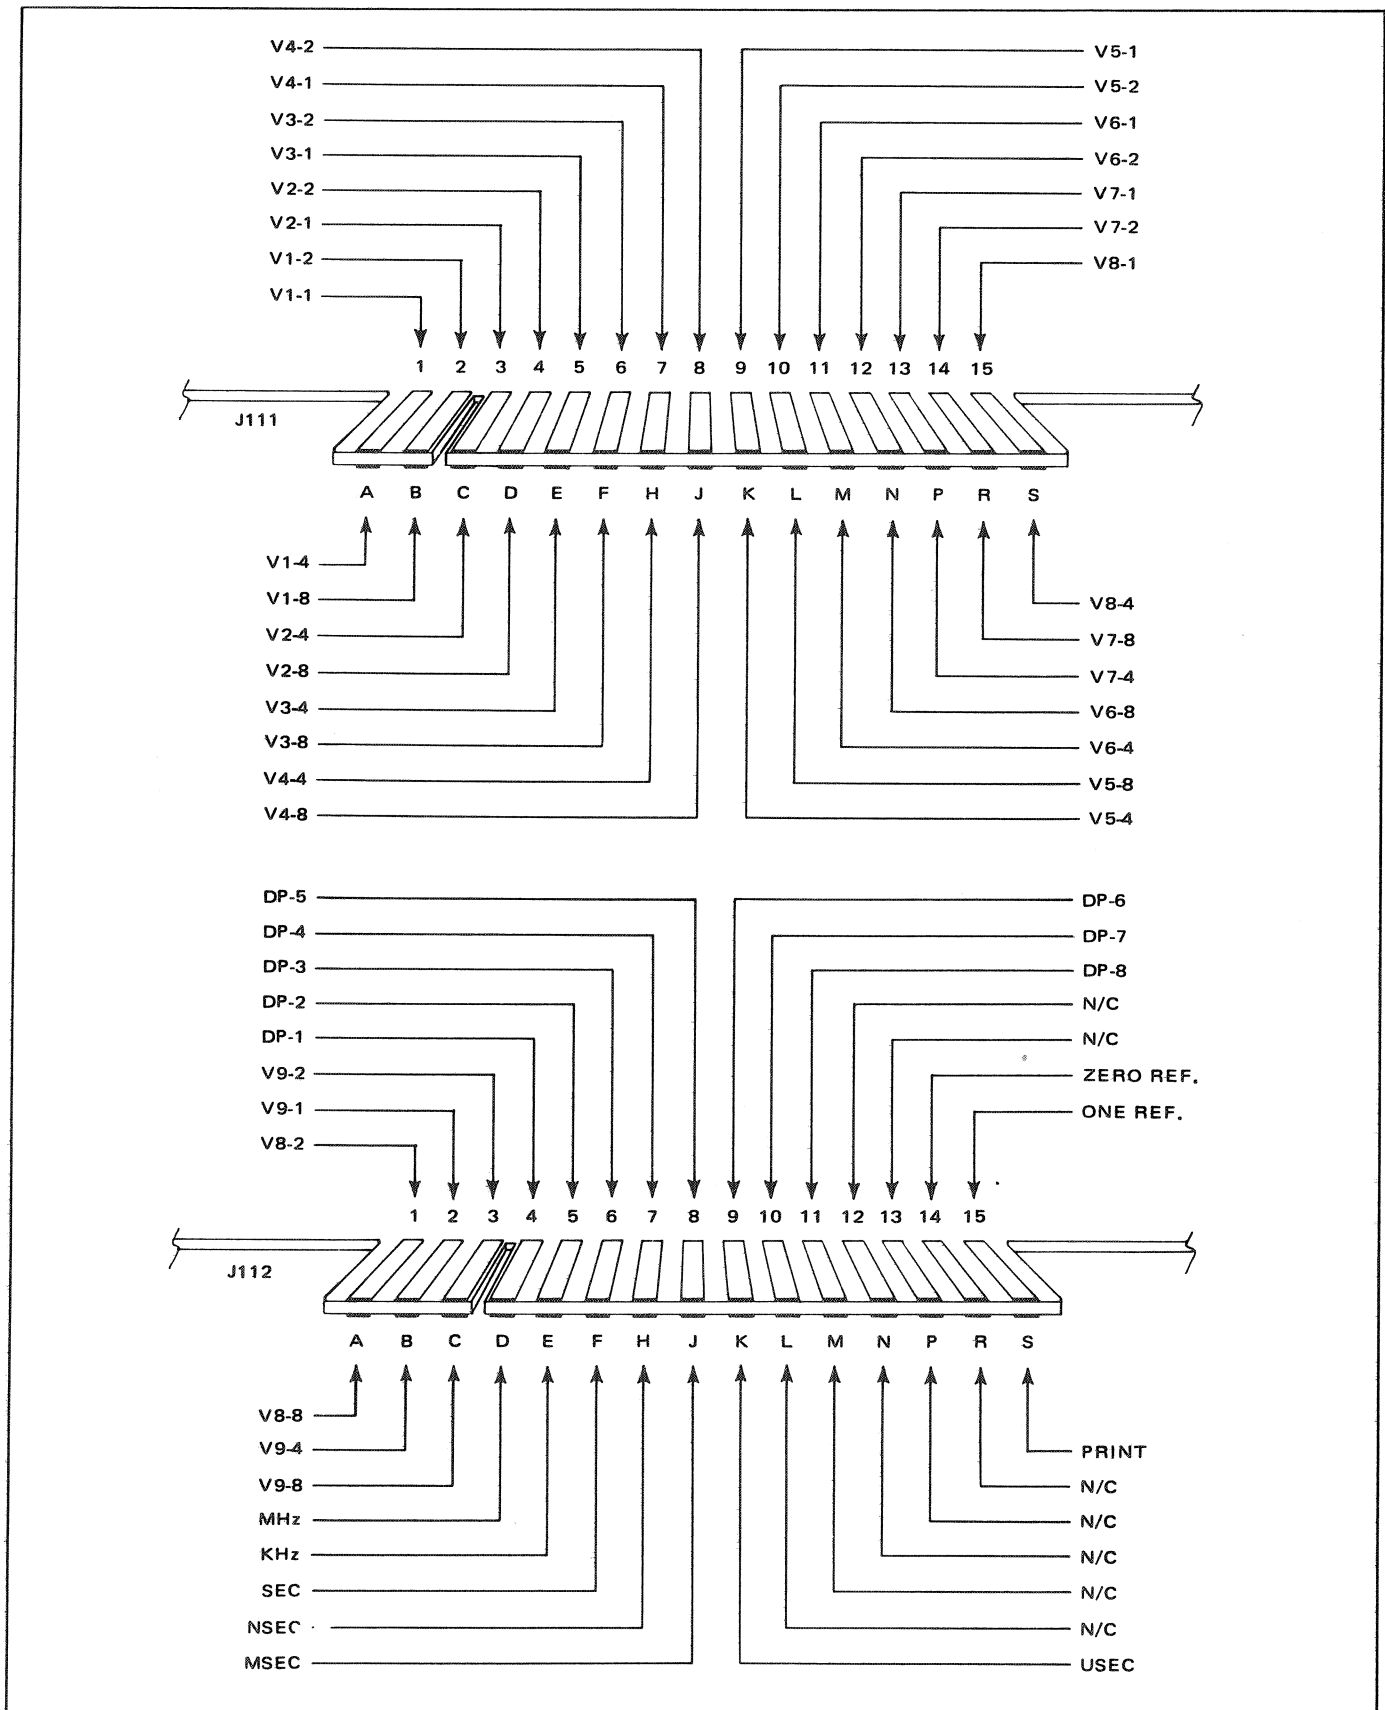

Figure 2.2 - J111 and J112 Recorder Outputs
2.6 Two mating connectors (Dana P/N 600698) come with the instrument for the RECORDER output. Pin identification for the connectors is provided in figure 2.2, and table 2.1. The outputs are described in the following paragraphs.